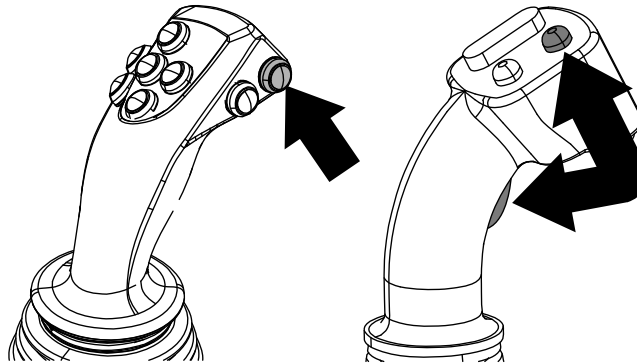

Figure 6
Push the cruise button on the joystick (Figure 6) or push button 4 on the home screen to access the cruise screen.
2. Hold the joystick(s) in the active position for the amount of thrust and rotation speed you want and push the cruise button on the joystick (Figure 6).